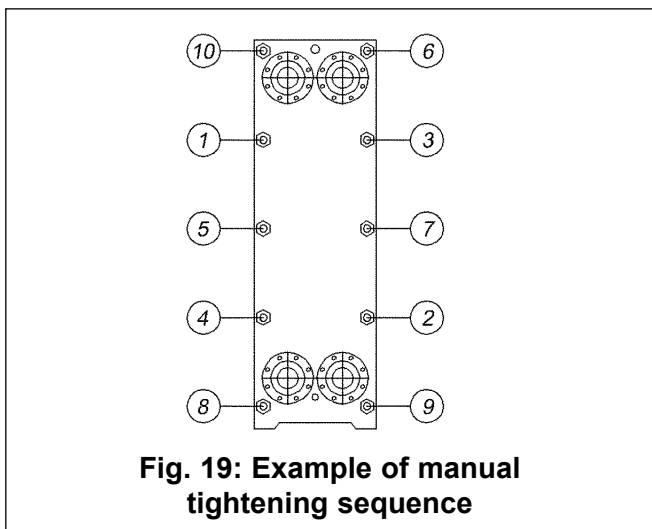

Fig. 19: Example of manual tightening sequence
3. Tighten the plate pack using diagonally opposite tie rod pairs, in a sequence similar to that given in Figure 19 below. Ensure during closing that the fixed and mobile heads are kept parallel to each other to within 1/4" to 1/2".